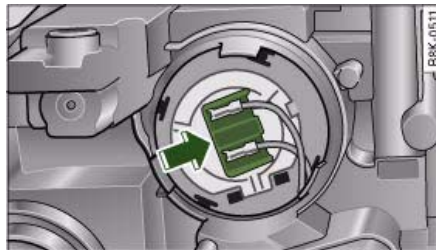

Fig. 295 Bulb holder for dipped headlights
- Press the connector in the direction of the arrow ⇒ fig. 295.